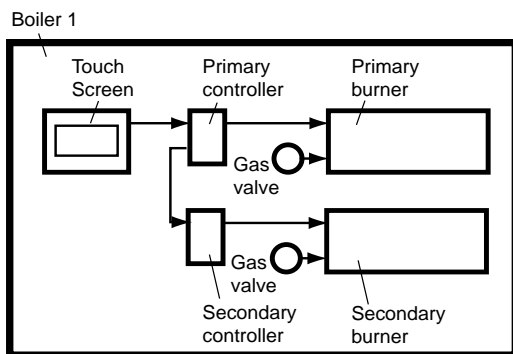

Figure 22. Control Arrangement in a Single-Boiler Installation
- Each boiler has two controllers (internal electronic burner controllers) and two burners, as shown in Figure 22.